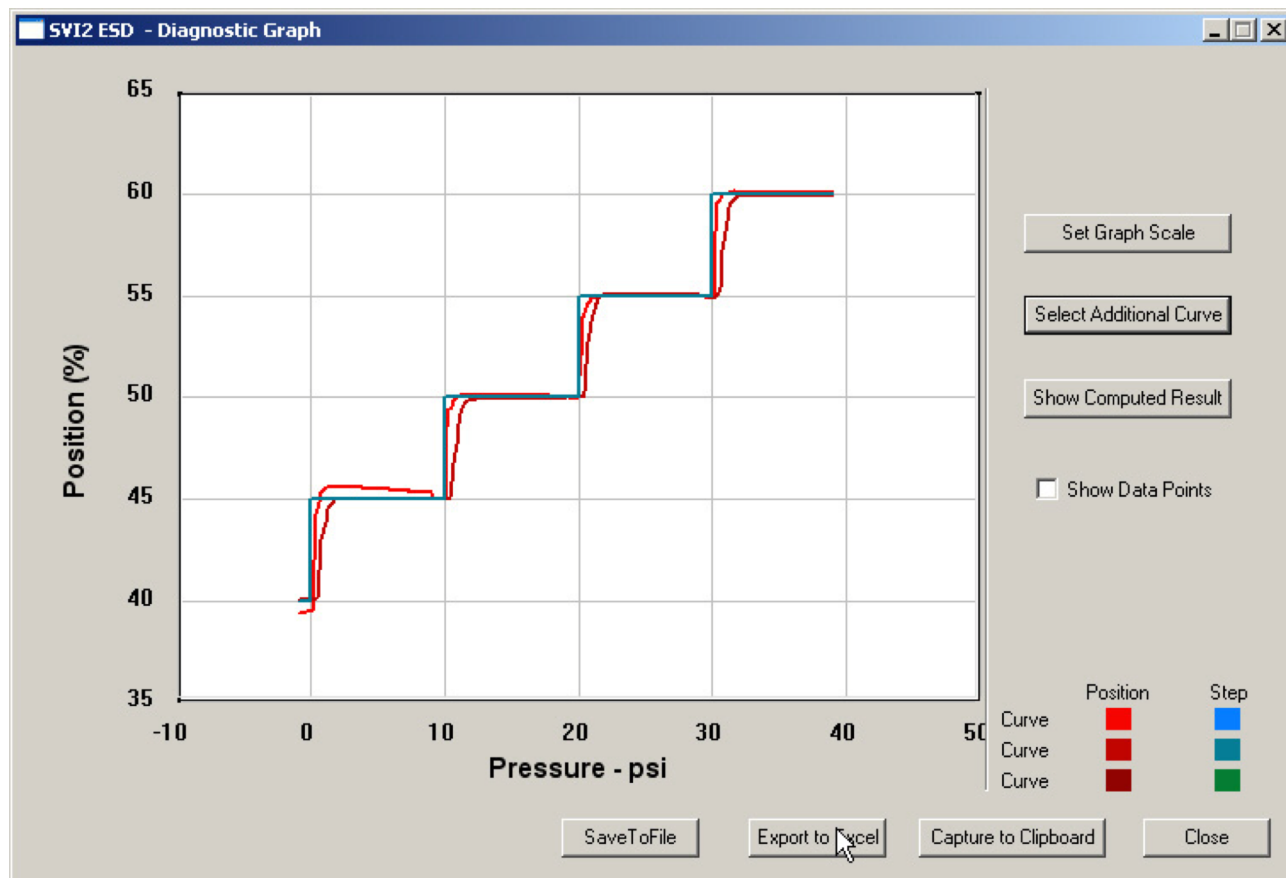

Figure 197 - Selecting Export to Excel
- Click **Export to Excel** (*Figure 197*).